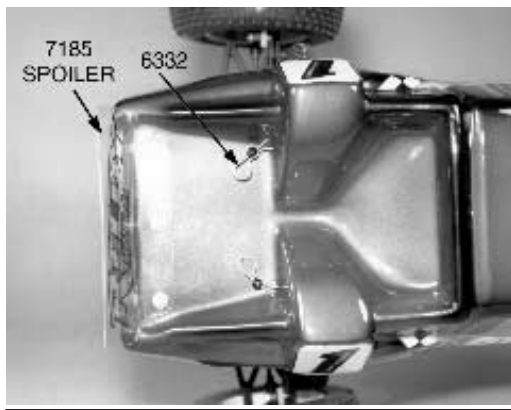

Fig. 213
□ **Fig. 213** Here we see the rear of the truck body installed on the chassis with the two body clips installed. You will also see the optional #7185 rear deck spoiler installed.